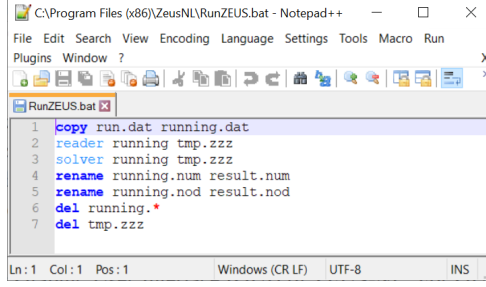

Figure 3: Syntax for running ZEUS-NL in batch mode.
The syntax for running analysis in batch mode is provided in Figure 3. Note that the executable files “Reader” and “Solver” as well as the input ZEUS-NL file has to be in the same directory.
The set of commands provided in Figure 3 can be collected in a file with “bat” extension (for windows systems) such as “RunZEUS.bat” and can be run all at once by calling “RunZEUS.bat”. Note that the commands that are shown in blue are dos commands. For other operating systems one has to replace these commands with their equivalents.
2. Run ZEUS-NL through batch mode. If the commands are save in a batch file (e.g. see Figure 3), then the command `system('RunZEUS.bat')` can be issued in Matlab.